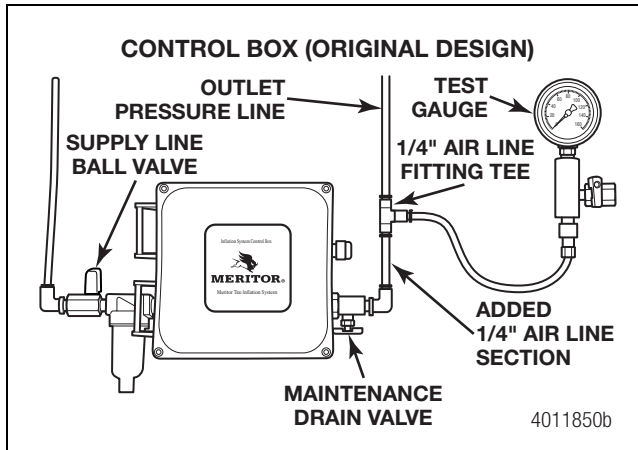
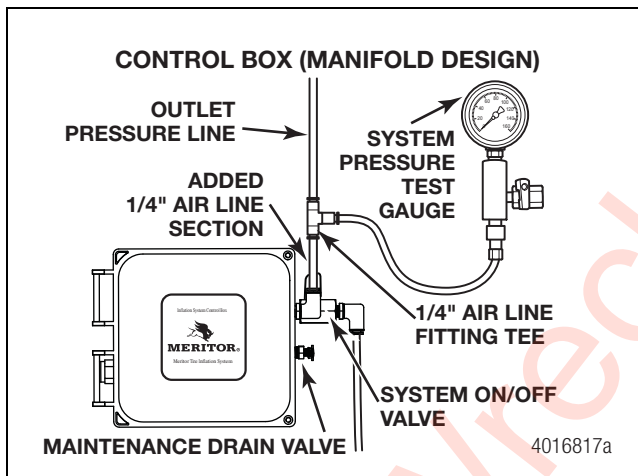

Figure 3.28
Figure 3.29
3. Install a 1/4" air line fitting tee and a small section of 1/4" air line to the control box outlet port. Figure 3.28 and Figure 3.29.
4. Install test gauge and outlet pressure line to open ports on the 1/4" air line fitting tee. Figure 3.28.